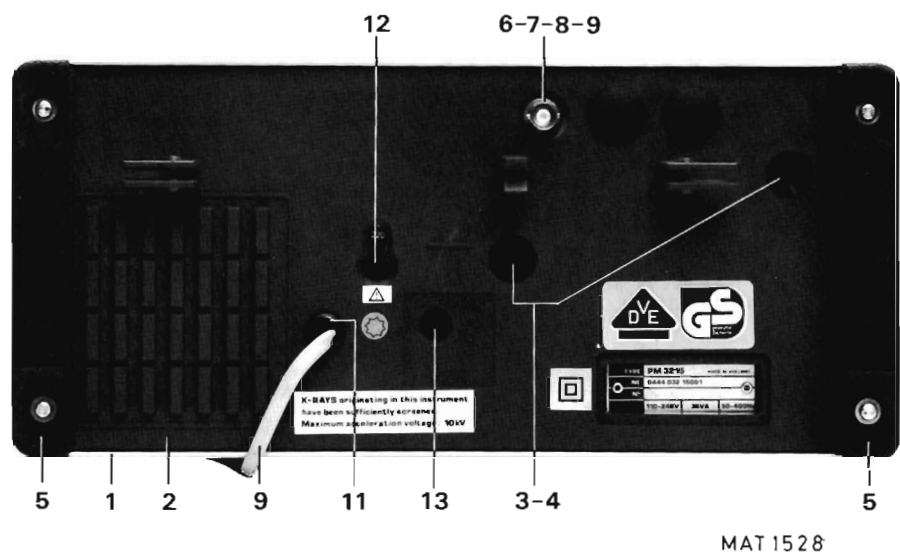

Fig. 7.4. Rear-view showing item numbers
7.1.2. Rear-view (see fig. 7.4.)